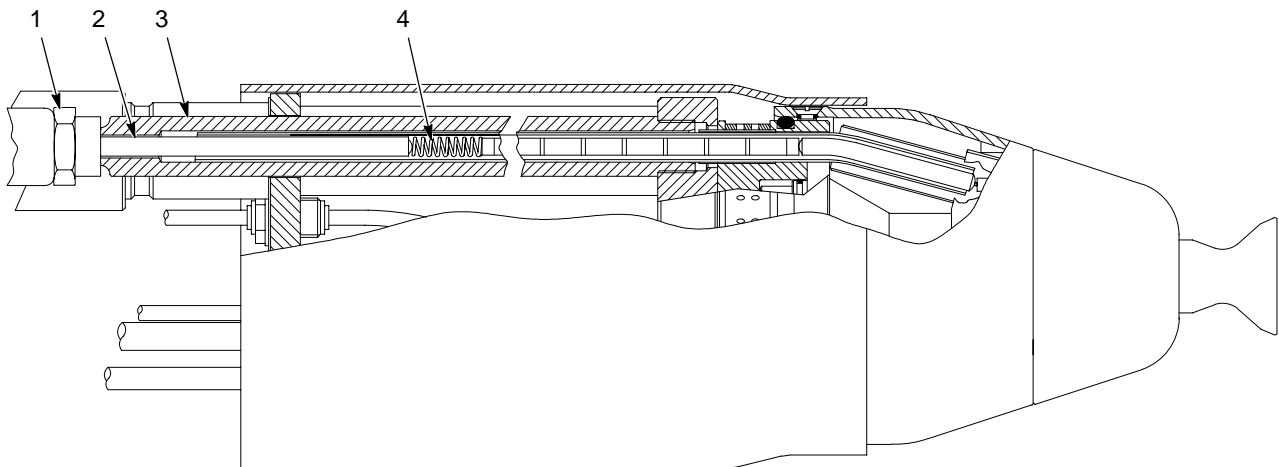

Figure 3-8 High-Voltage Cable
2. See Figure 3-8. Push the cable extension (2) into the cable adapter (3) until it is pressing against the resistor spring (4).
4. Thread the cable nut (1) onto the adapter. Tighten the nut hand-tight.